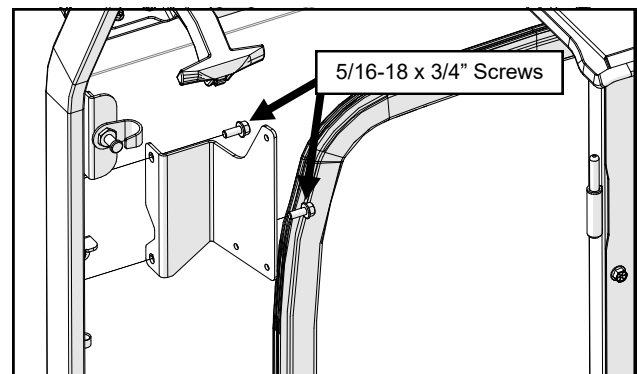

Fig. 19.1 (Install Heater Bracket to A-Pillar)
19.1 Slide the heater bracket between the harness and left side frame and attach. See Figure 19.1. Tighten hardware.